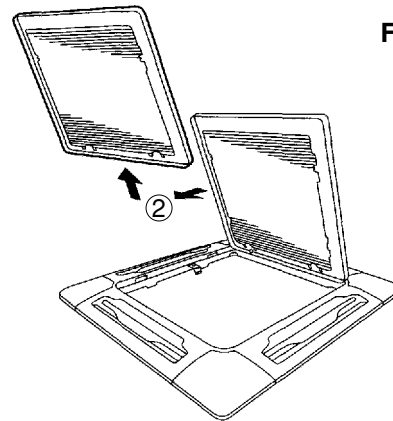

Fig. 9-14
- c) With the air-intake grille opened, remove the grille hinge from the ceiling panel by sliding it in the direction shown by the arrow ②. (Fig. 9-14)
- (2) Removing the corner cover